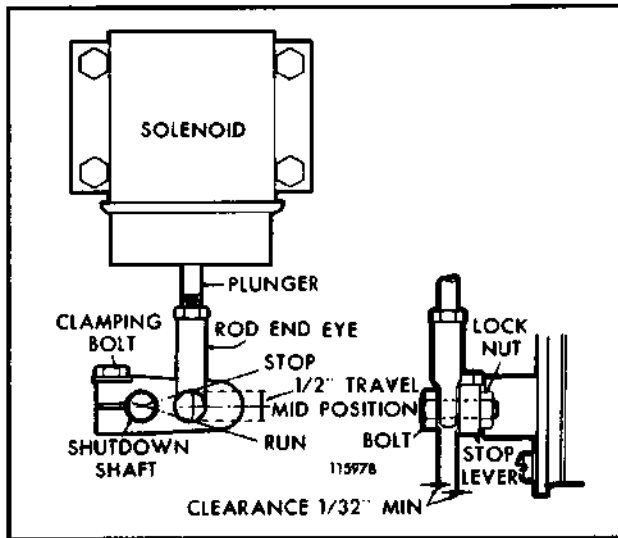

Fig. 6 - Typical Speed Governor Lever Position
1. Remove the bolt connecting the rod end eye (variable speed governor), or the right angle clip (limiting speed governor) to the stop lever (Figs. 6 and 7). Align and clamp the lever to the shutdown shaft in such a way that, at its mid-travel position, it is perpendicular to the solenoid plunger. This assures that the linkage will travel as straight as possible. The solenoid plunger has available 1/2" travel which is more than adequate to move the injector control racks from the full-fuel to the complete no-fuel position and shutdown will occur prior to attaining complete travel.
In any paving operation where two or more mats are joined together, this procedure is called matching a joint (Figure 6). The joint may be either parallel or transverse, depending upon the phase of operation. When matching any joint the operator should always have sufficient thickness so when the mat is rolled it will be the same depth as adjoining mat. Extra thickness depends upon how thick a mat is being laid. Example: a 4" black base mat may require 5" of fresh material in order to measure 4" after final rolling. A 1 1/2" mat may require only 13,14" of material.
(1) Parallel Joints-The "CEDARAPIDS" Bituminous Paver is designed to match one mat to another mat by overlapping the previously laid mat. The amount of overlay will depend some upon skill of the operator. (Refer to Figure 6.) The operator should also consider the following examples when laying mats with parallel joints.